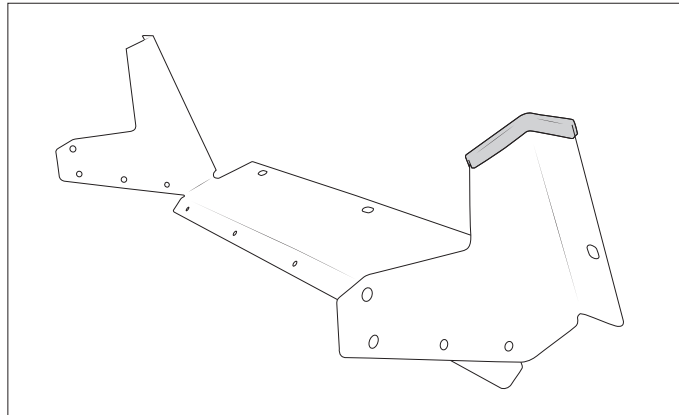

Figure 43
1. Install edge guard onto the left side of the intercooler shroud to protect winch wiring (fig. 43).